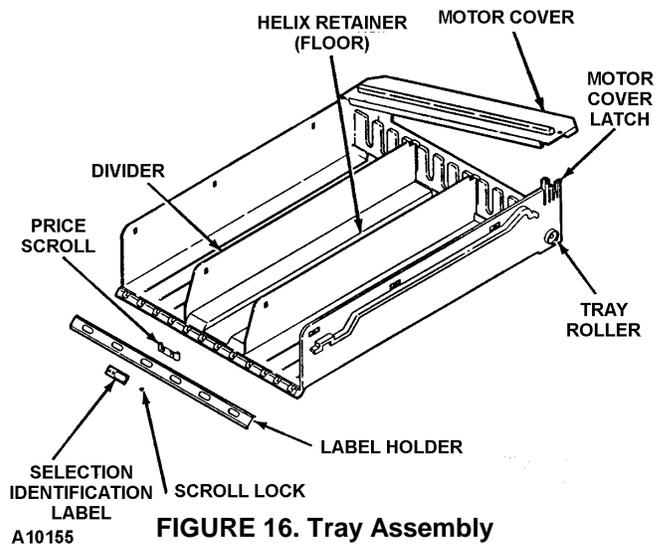

FIGURE 16. Tray Assembly
3. **3 & 4-wide** - Depress the motor cover latch and remove the motor cover. See Figure 16. **5-wide** - Remove the three thumbscrews securing the motor cover. Remove the cover.
8. **3 & 4-wide trays-** Replace the motor cover by hooking the left end into its retainer on the tray and snapping the right end into the motor cover latch. See Figure 16.